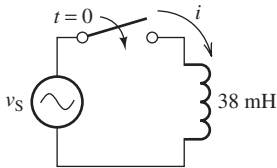

FIGURE P4.37 Circuit for Problem 4.37.
4.37 (A) Current through an inductor is turned on at time $t = 0$, as shown in Figure P4.37. $v_s = \cos(200\pi t)$. Calculate the energy delivered to the inductor at $t = 21$ ms.
- 4.52 (H) Given the voltage source is $5 \sin(\pi t)$, current through an inductor is turned on at time, $t = 0$, as shown in Figure P4.37. Use PSpice to plot the voltage and current flow through the inductor for 25 ms.